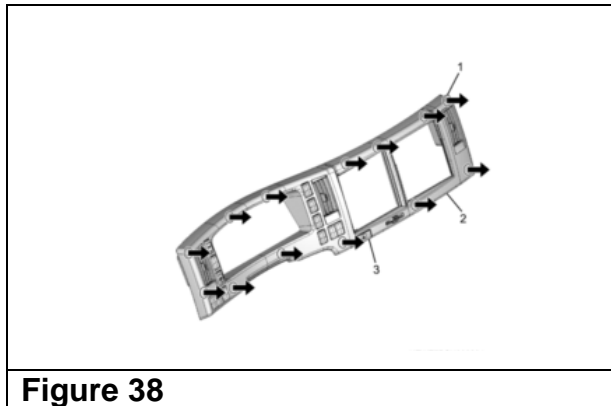

Figure 38
37. Place the meter cluster bezel onto the IP and be sure to connect all switches. Press the meter cluster bezel back into place. (See Figure 38.)